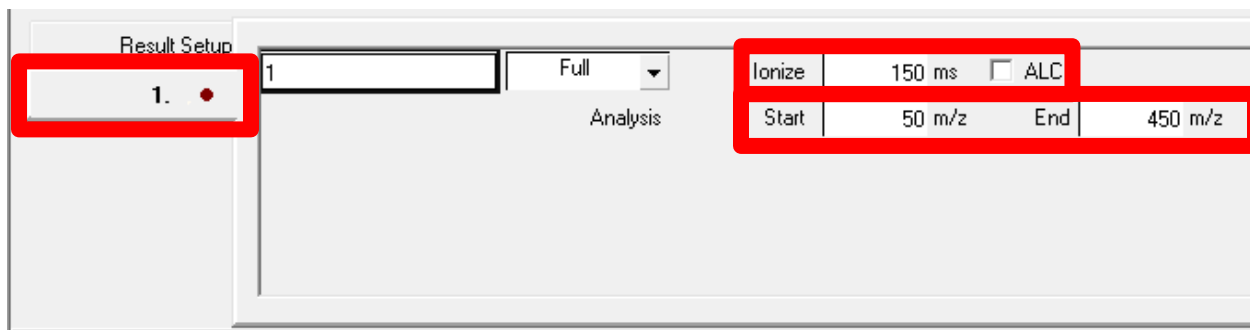

Figure 4.6 – MS scan settings
6. The default method will load recommended starting conditions with the MS scan settings visible (Figure 4.6). The default mass ranges are 50 – 425  $m/z$ . A default ionization time of 150 ms will also be set. Un-check the box for “ALC” (Automatic Level Control). “ALC” is also known as Automatic Gain Control (Figure 4.6).